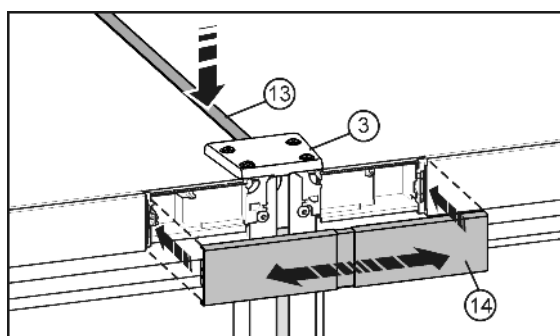

Fig. 10
- On the top of the appliances, press the short strip Fig. 10 (13) into the gap. Make sure the front edge of the strip is flush with the joining plate Fig. 10 (3).
- Clip the cover Fig. 10 (14) over the gap between the two control panel covers. Make sure the side edges of the cover are flush with the control panel covers. To enable this, the cover is expandable.